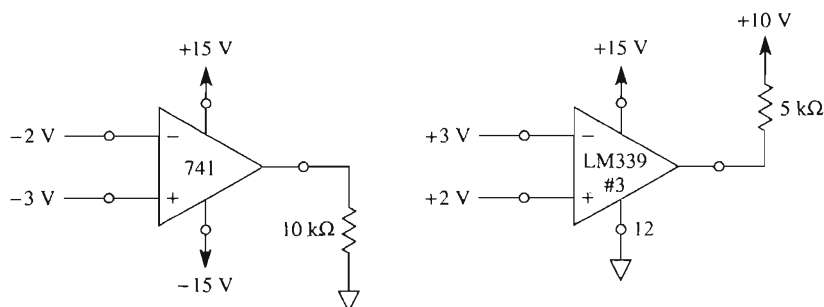

FIGURE P2-6
- 2-6. Both op amps of Fig. P2-6 are in 14-pin dual-in-line packages. (a) Number the terminals. (b) Calculate E_d . (c) Find V_o .